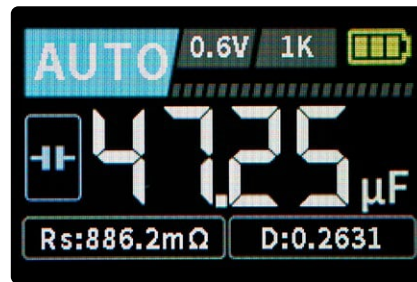

Figure 4: The bright color display shows, among other things, the measured value, the series resistance, and the dissipation factor.
When turned on, the LCR-ST1 starts in auto mode, automatically identifying whether the component under test is a resistor, capacitor, or inductor. The primary measurement (up to four digits) is visible prominently in the center, with the series resistance (R) and dissipation factor (D) below in smaller text (Figure 4). The